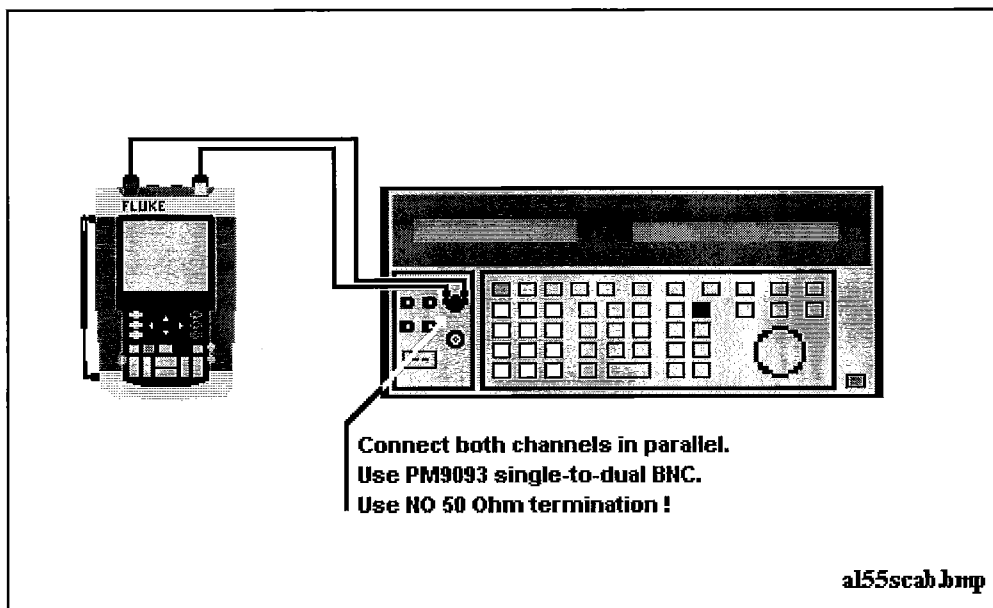

Figure 4-4. 5500 Scope Output to Test Tool Input A&B
1. Connect the test tool to the 5500A as shown in Figure 4-4. Do NOT use 50  $\Omega$  terminations!
1. Connect the test tool to the 5500A as for the previous test (see Figure 4-4).